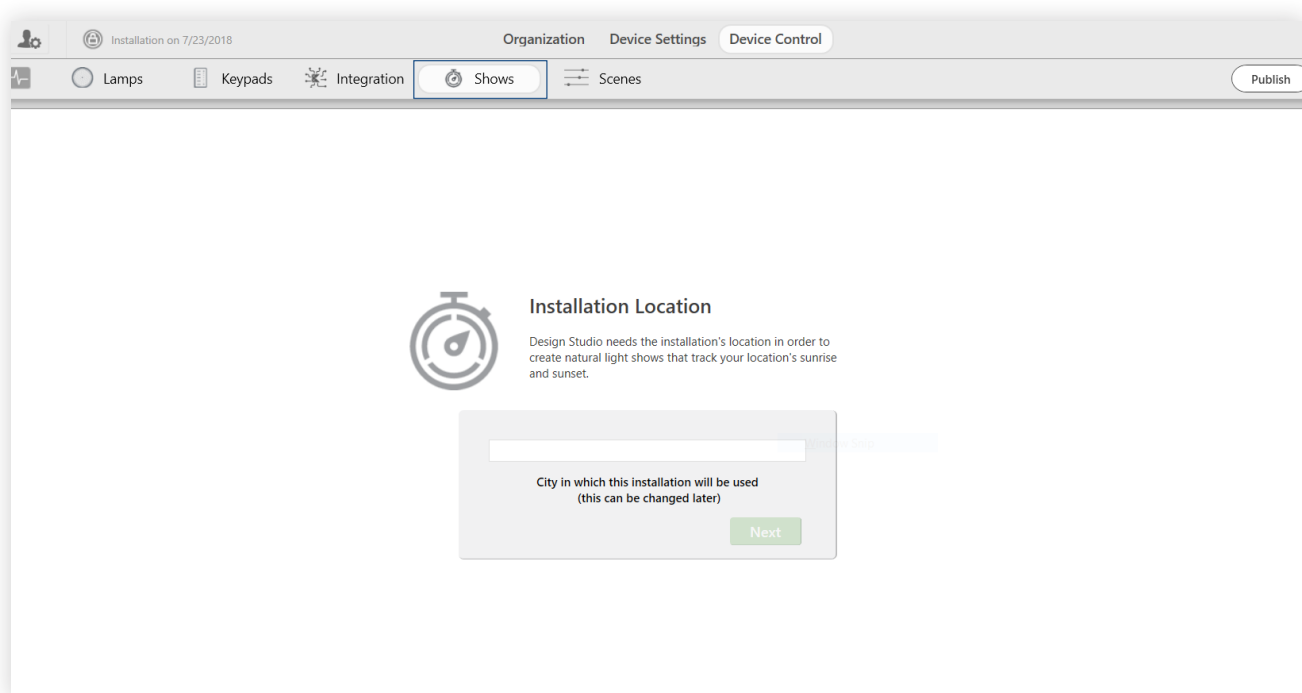

fig. 78
- 1 Go to the **Shows** tab in Device Control, pictured in fig. 78.